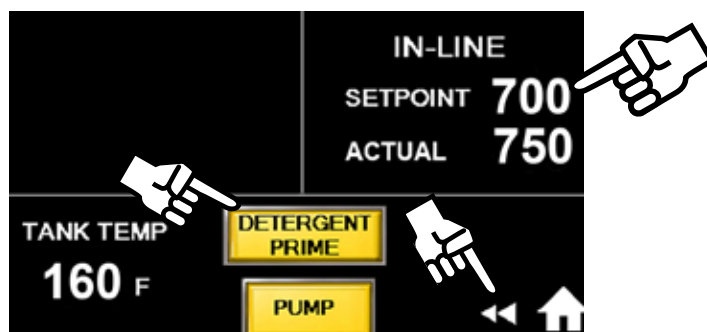

Fig. 76 - Pump button
3. The factory default "SETPOINT" value is 700. It can be changed by pressing the setpoint number and entering the new value, (Fig. 76).
5. Press DETERGENT PRIME to prime in the event that it is not completely primed, (Fig. 76).
6. Press the Back button (◀◀), to return to the Settings menu, (Fig. 76).